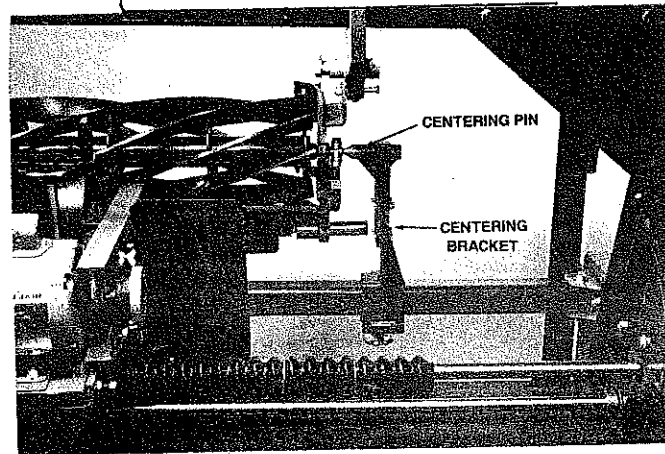

FIG. 42
- B. With Fairway mowers without exposed hubs or normally all greens mowers, you will use the centering mounting brackets. They are mounted with the offset facing the back of the machine and mounted to the center holes in the lower support (See FIG. 42)